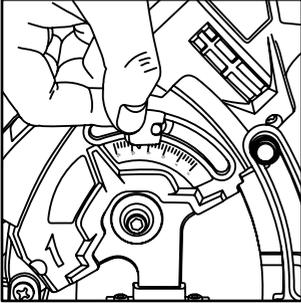

Fig.8
4. Adjusting the cutting depth (Fig.8)